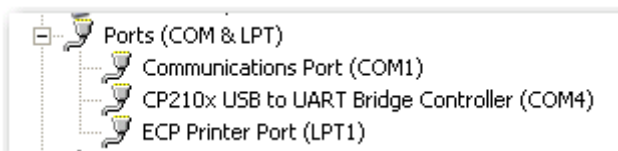

**Figure 2-9 • Connecting the USB and 9 V Power Supplies on the M1AFS-ADV-DEV-KIT Board**
1. Connect one end of the USB mini cable to USB port J2 on the M1AFS-ADV-DEV-KIT board (labeled USB2 in Figure 2-9) and connect the other end to the USB port on your PC.
- Connect one end of a 9 V power supply to power input J3 on the M1AFS-ADV-DEV-KIT board (Figure 2-9) and plug the supply into an electrical outlet.